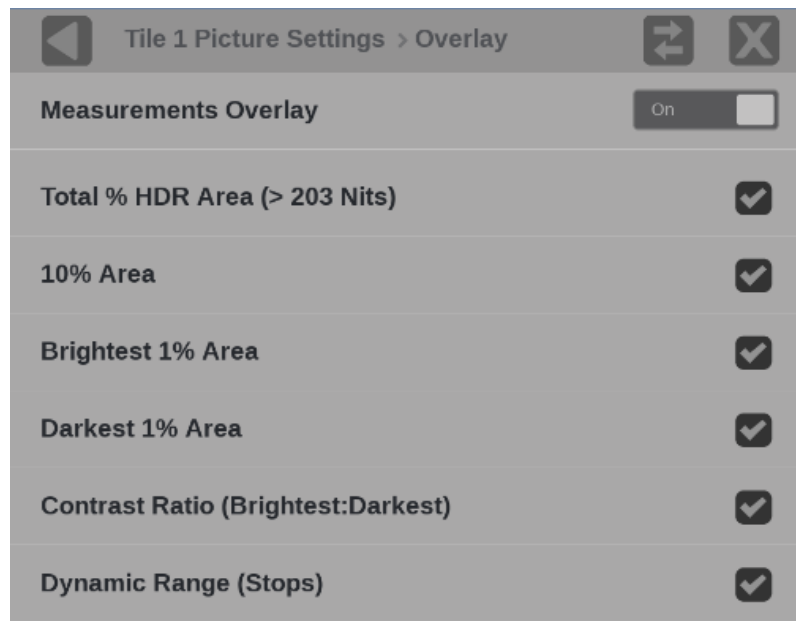

Figure 114: Picture Settings with Measurement Overlay menu
3. Set Measurements Overlay to **On**. (See Figure 114.) This turns on the measurements overlay in the Picture application. After it is visible, the overlay window can be dragged to any location in the Picture tile.